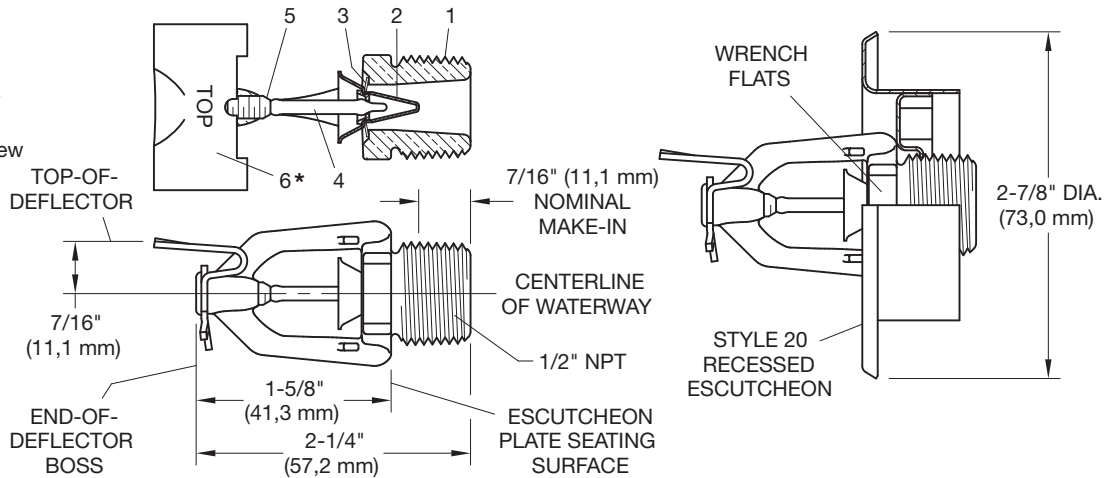
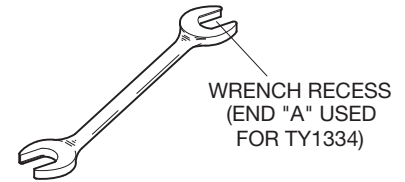
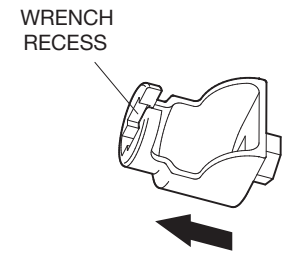

FIGURE 1
FIGURE 3
FIGURE 4
Step 3. Tighten the sprinkler into the sprinkler fitting using only the W-Type 6 Sprinkler Wrench (Figure 3). With reference to Figure 1, apply the W-Type 6 Sprinkler Wrench to the wrench flats.
Step C. Tighten the sprinkler into the sprinkler fitting using only the W-Type 7 Recessed Sprinkler Wrench (Figure 4). With reference to Figure 1, apply the W-Type 7 Recessed Sprinkler Wrench to the sprinkler wrench flats.